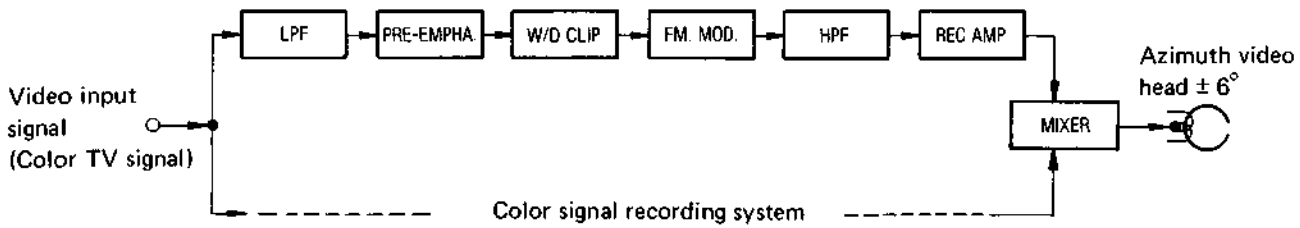

Fig. 1-22 Luminance signal recording system
Frequency modulation (FM) is used for the luminance signal recording system. A simplified block diagram of the system is shown in Fig. 1-22.